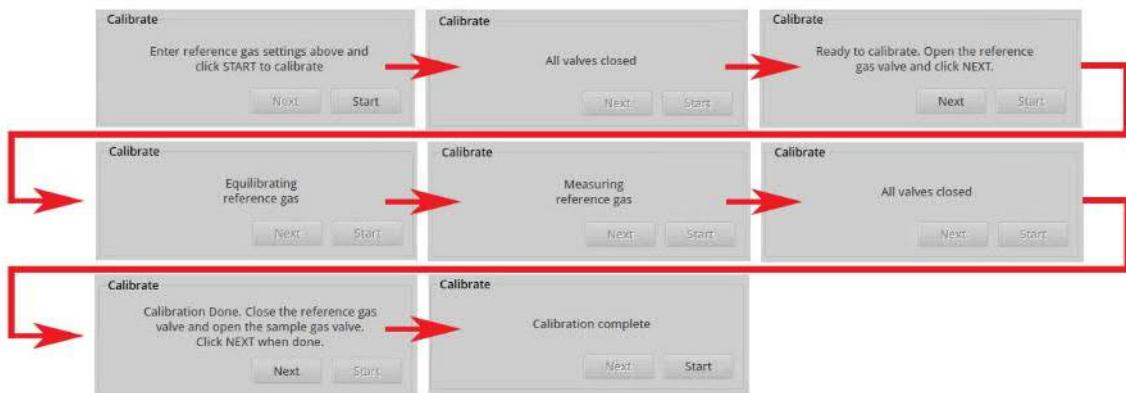

Figure 93: Calibration Flow
10. Each step is displayed in the lower-right panel of the calibration screen as the analyzer performs the calibration. Figure 93 shows the calibration process as a flow chart.